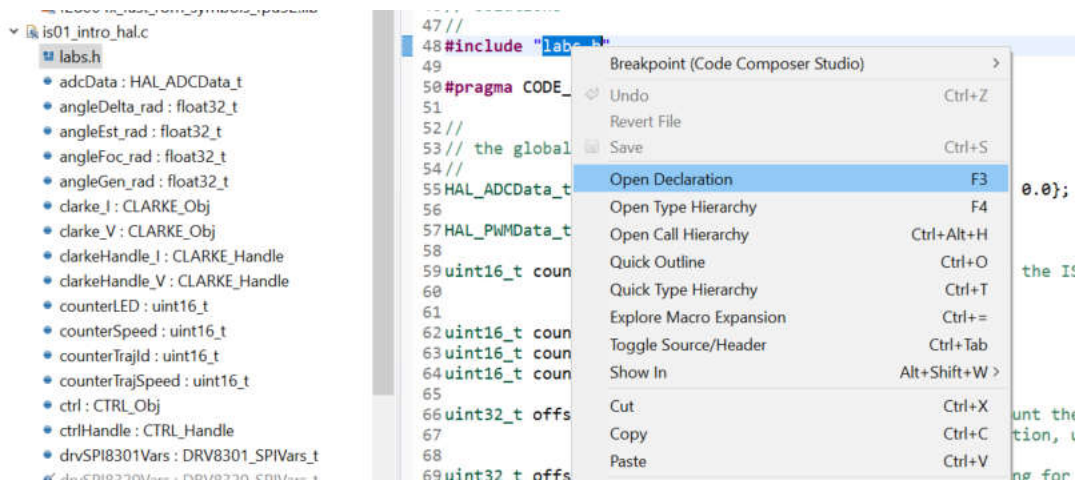

Figure 8: Opening a header file from its declaration
3. Right-mouse clicks on “labs.h” and select “Open Declaration” as shown in **Figure 8**.